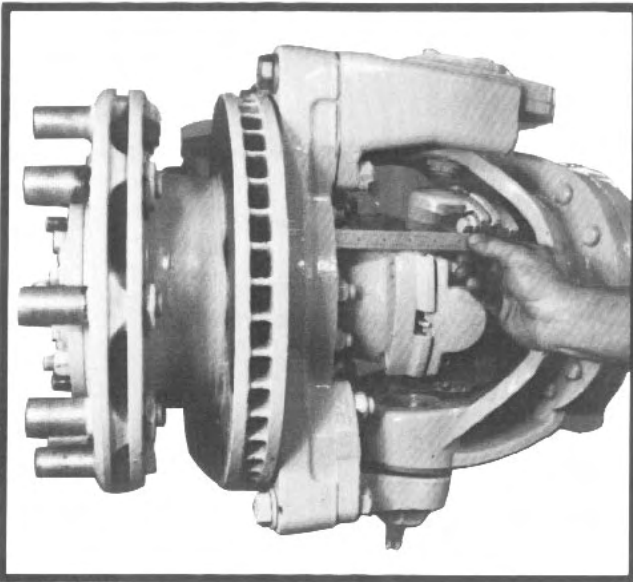

Fig. 7
1. Measure the horizontal distance between the inner face of the outer drive yoke and the inner face of the torque plate at the lower kingpin bracket (See fig. 7). Distance should be 3.41" (87 mm).